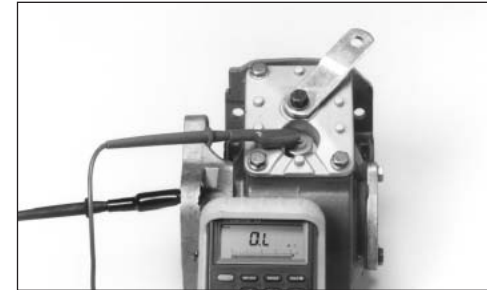

Fig. 7
2. With the other probe, make contact with the shifter cover or housing (Fig. 7).